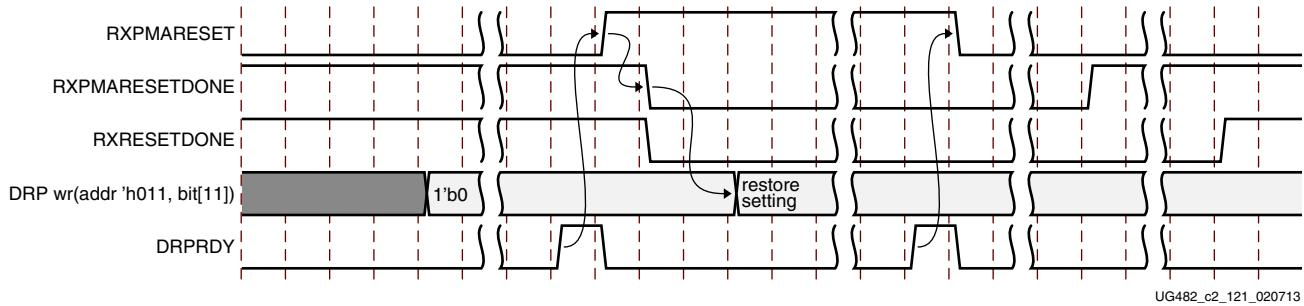

Figure 2-21: GTP Transceiver RXPMARESET Sequence
When users want to issue an RXPMARESET, the steps in Figure 2-21 should be performed.
2. The sequence of events in Figure 2-21 is not drawn to scale.